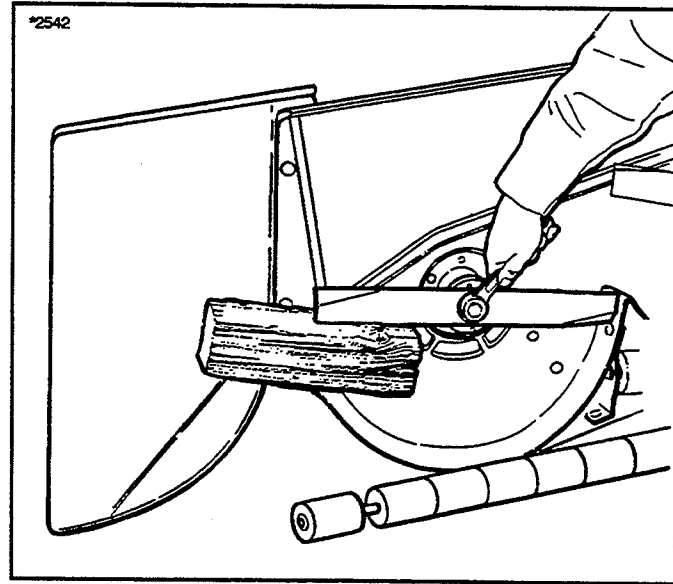

Figure 25. Removing the blade.
3. To remove blade for sharpening, use wooden block to hold blade while removing its blade mounting capscrew (figure 25).